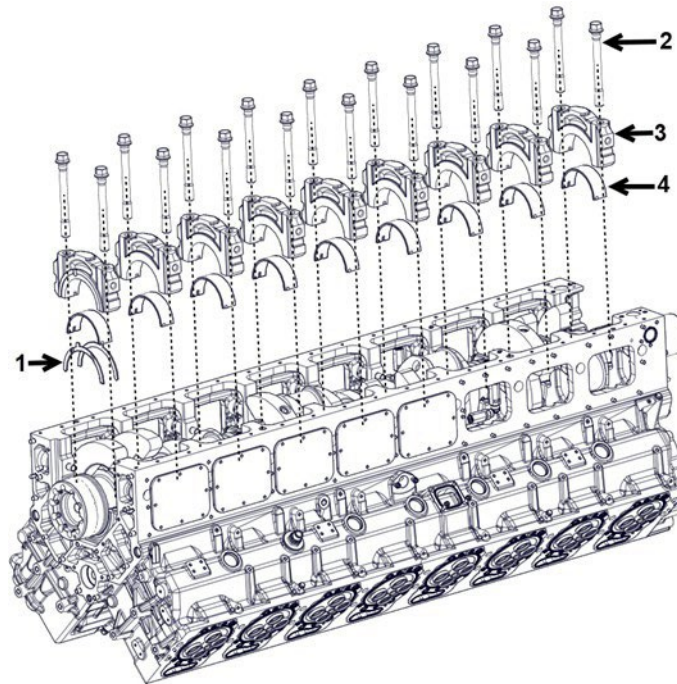
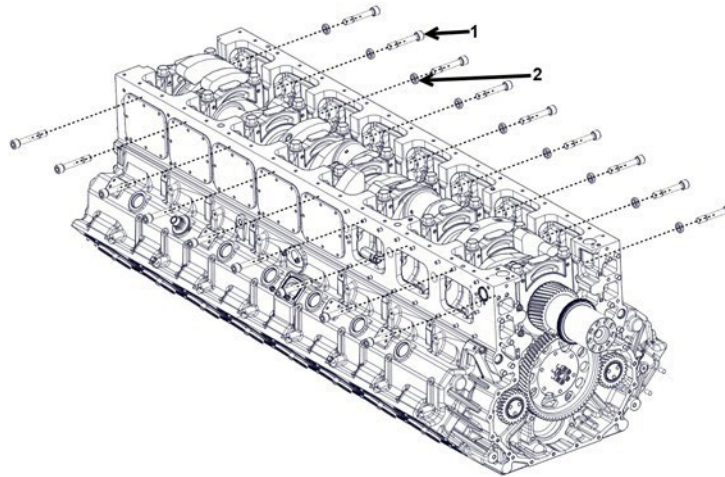

Figure 123.
Figure 124.
6. Reinstall new main bearing (Figure 123, Item 4) and thrust plate (Figure 123, Item 3) in the main bearing caps (Figure 123, Item 2).
7. Reinstall the main bearing caps (Figure 123, Item 2).
8. Apply a light coat of clean engine oil to the bearing cap main bolts (Figure 123, Item 2) and auxiliary bolts (Figure 124, Item 1) with washer (Figure 124, Item 2).
- i. Tighten the main bearing bolts (Figure 123, Item 2) in alphabetic order (A – R) to 133 ft/lb.
- iii. Tighten the main bearing bolts (Figure 123, Item 2) in alphabetic order (A – R) to an angle of 60°.
- iv. Tighten the main bearing bolts (Figure 123, Item 2) in alphabetic order (A – R) to an angle of 60°.